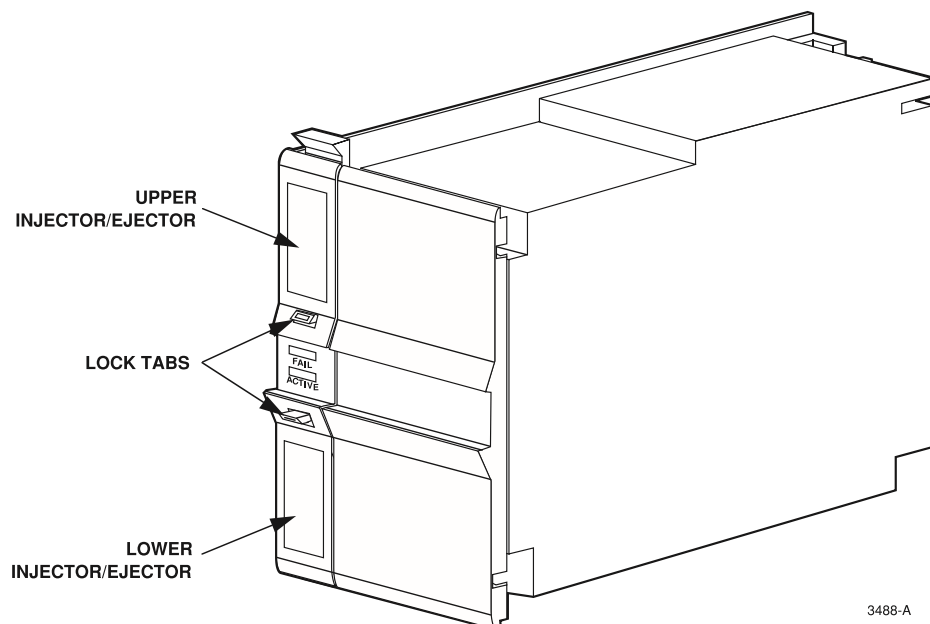

Figure 5-4. Power Unit (PWRU)
3. Release the lock tabs on the PWRU to free the upper and lower injector/ejectors as shown in Figure 5-4.